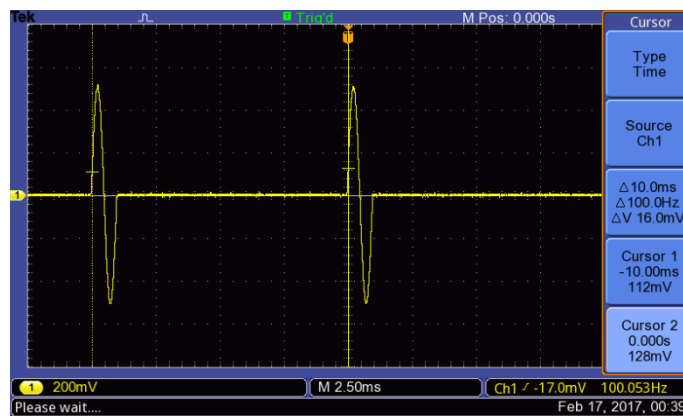

Figure 5: One complete cycle of a 1kHz sine wave every 10ms (100Hz).
3. The default burst count is set to 1 cycle to be outputted every 10 ms or 100Hz. See Figure 5.